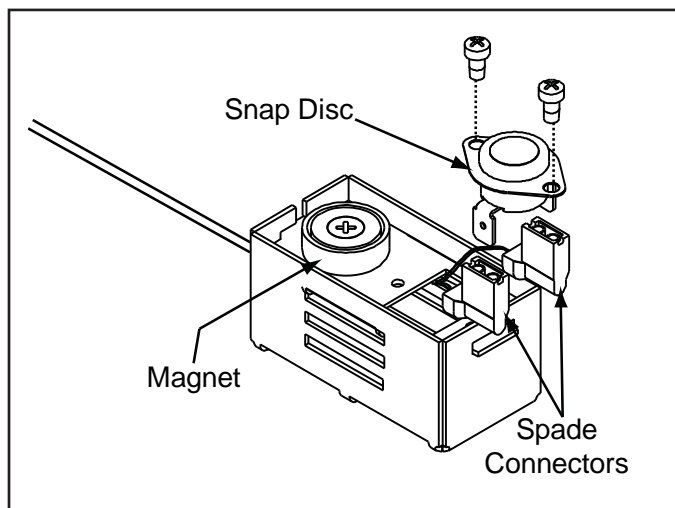

Figure 36.4
3. Pull the snap disc and spade connectors up and out of bracket as shown in **Figure 36.4.**